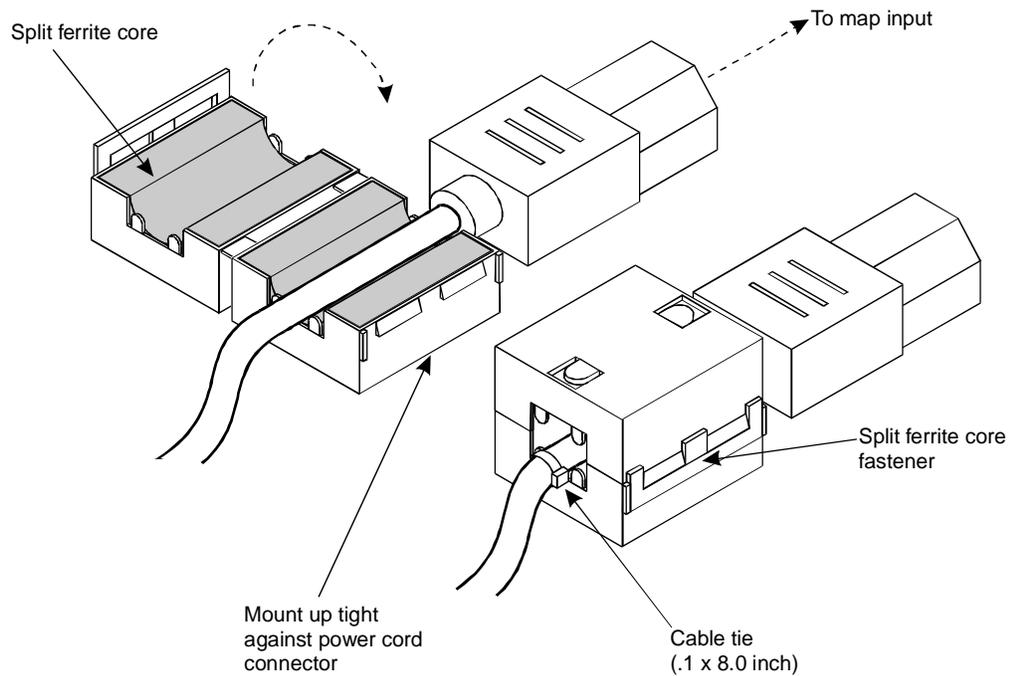

Figure 7-1. Split Ferrite Core Toroid
2. Open the split ferrite core toroid by gently pulling the fastener away from the body of the split ferrite core toroid (Figure 7-1).
3. Place the power cord in the groove inside the split ferrite core toroid (Figure 7-1).
4. Gently snap the split ferrite core toroid shut around the cable (Figure 7-1).